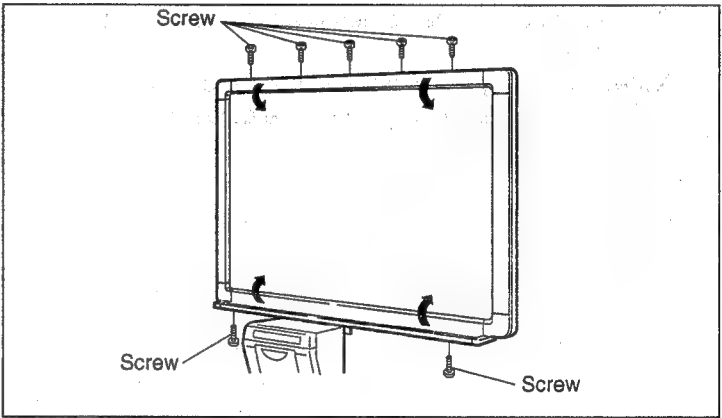

Fig. 7-6
- 1) Remove 7 screws, and remove the lower and upper frame covers (See Fig. 7-6).
- 3) Remove 2 screws (A) and 4 screws (B), and remove the frame cover (L) with the corner frame cover attachments.
- 4) Remove 2 screws (a) and 4 screws (b), and remove the frame cover (R) with the corner frame cover attachments.
- 5) Loosen 2 screws (C) and remove 2 screws (D).